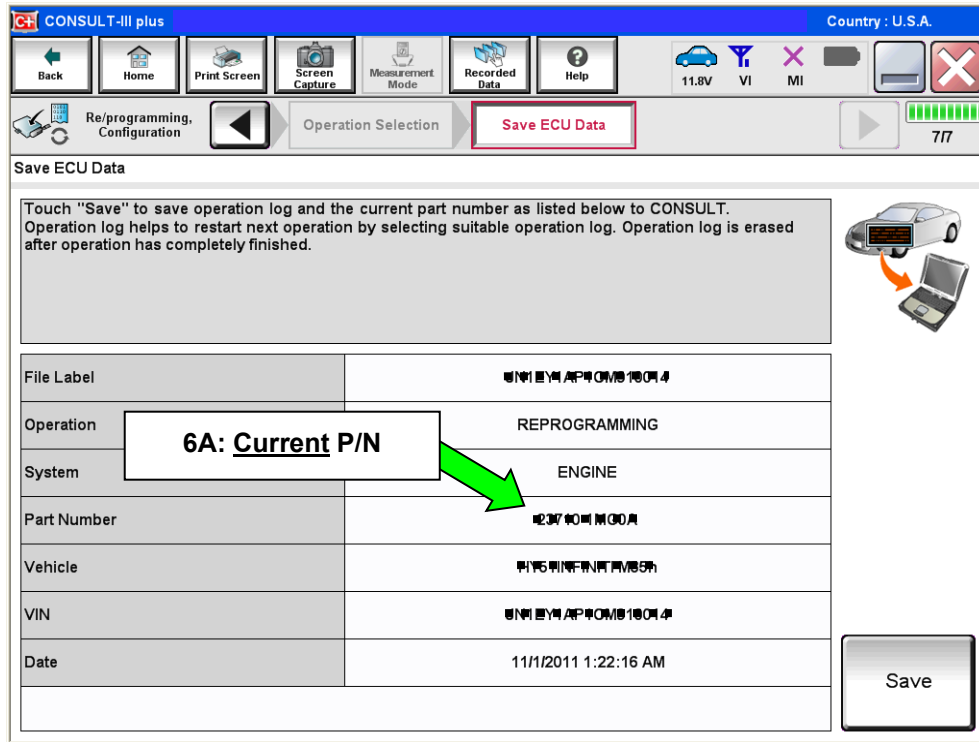

Figure 2
5. Follow the on-screen instructions and navigate the C-III plus to the screen shown in Figure 2 on the next page.
6. When you get to the screen shown in Figure 2, confirm this bulletin applies as follows:
NOTE: The screen in Figure 2 on page 4 will be similar for TCM reprogramming.